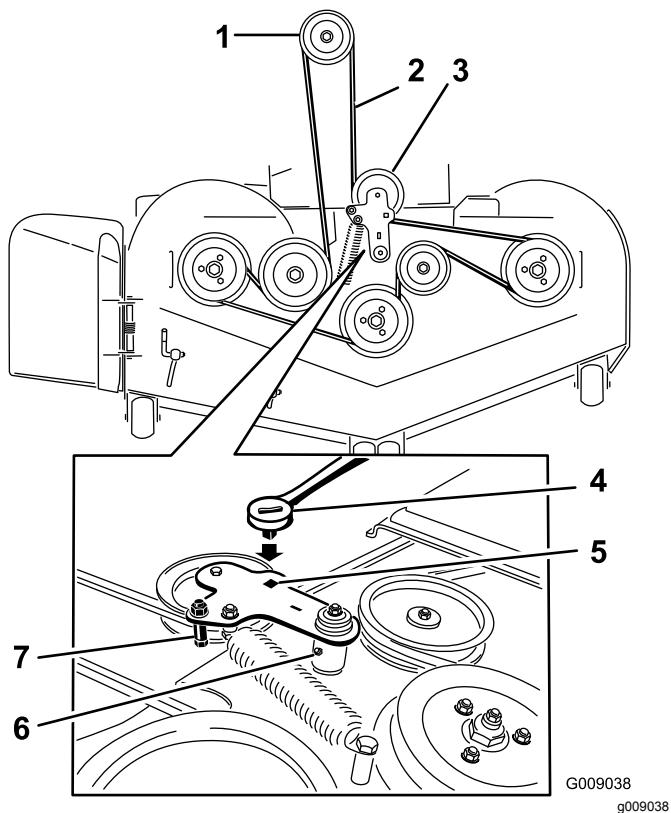

Figure 109
- Lift the floor pan and insert a ratchet into the square hole in the deck idler (Figure 109).
- Rotate the deck idler clockwise and remove the mower belt (Figure 109).